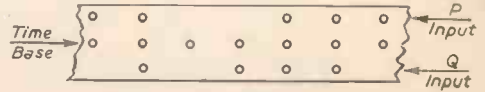

Fig. 9.—Punched tape input.
So far we have only talked about how pulses are summed in the adder, but we have not said how we feed the pulses in. Fig. 9 shows one possible way of feeding in the information to the (P) and (Q) terminals by means of a punched tape. Electrical contacts are made every time one of the holes is uncovered. We can therefore feed the pulses to the (P) and (Q) terminals respectively. The centre line of holes forms the time base which is essential for the delay device to work correctly. Similarly the output from the adder can be punched on tape, but in this case there would only be one line of holes.